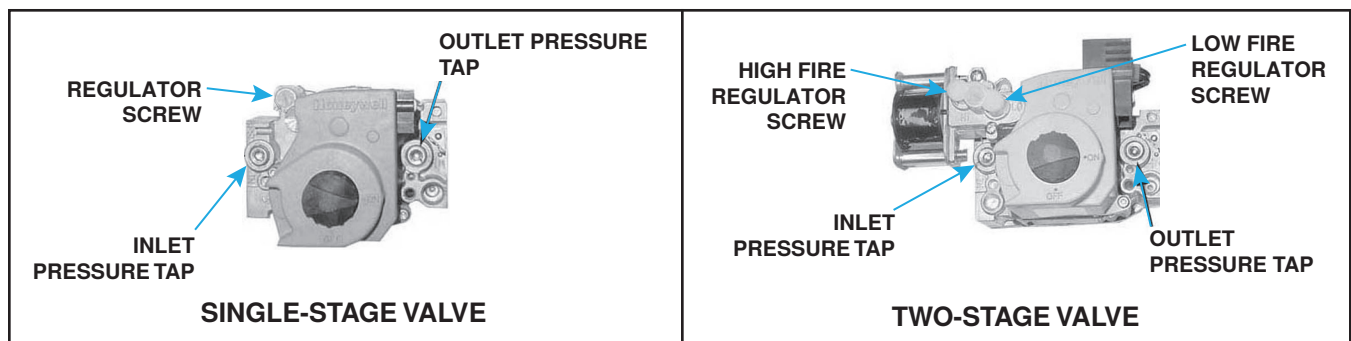

Figure 32. Combination Gas Valves
1. With manual valve (on combination valve) positioned to prevent flow to main burners, connect manometer to outlet pressure tap (see Figure 32) on valve.
3. Normally, adjustments to factory-preset regulator should not be necessary. If adjustment is necessary, set pressure to correct settings by turning regulator screw (see Figure 32) IN (clockwise) to increase pressure or OUT (counterclockwise) to decrease pressure. Consult valve manufacturer's literature provided with furnace for more detailed information.
2. Connect manometer to inlet pressure tap on combination gas valve (see Figure 32).